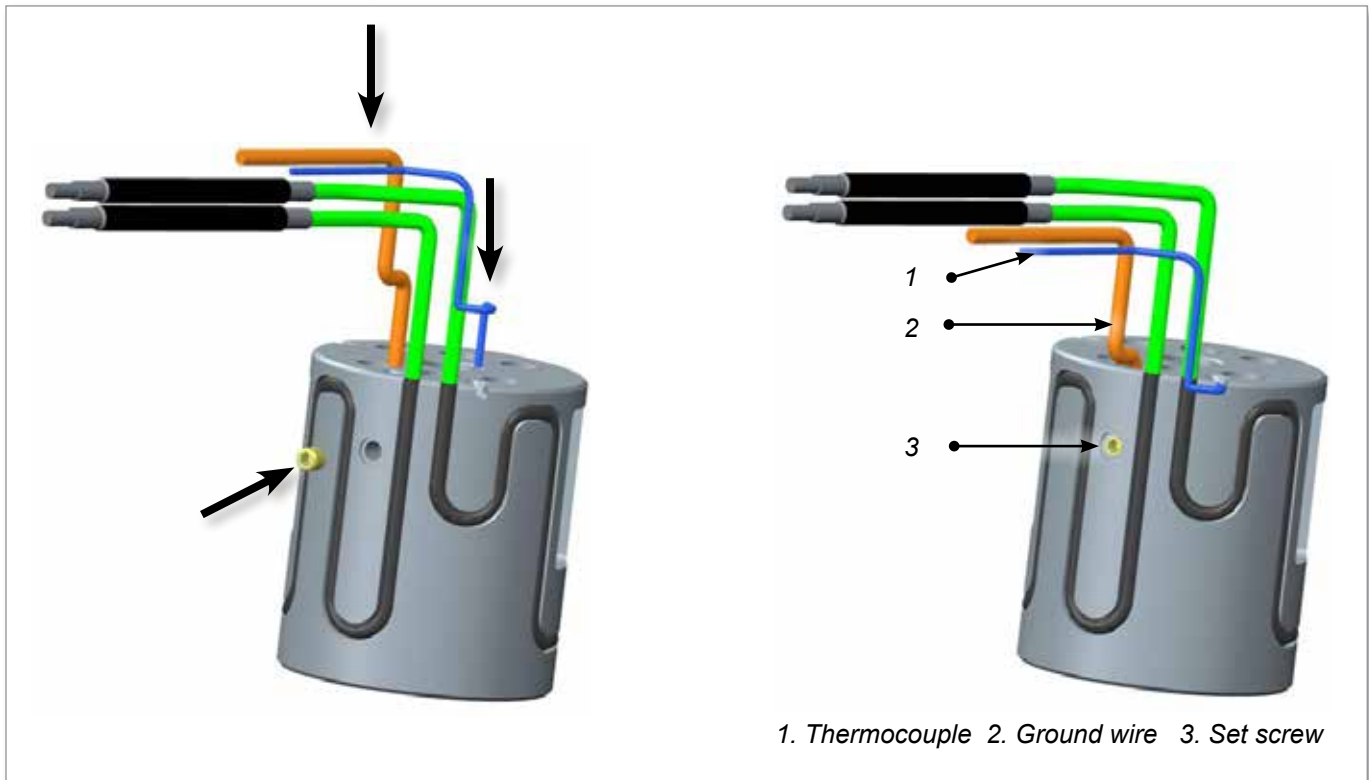

Figure 11-5 Install ground wire and thermocouple assemblies
4. Lock the ground wire using a set screw. See Figure 11-5.